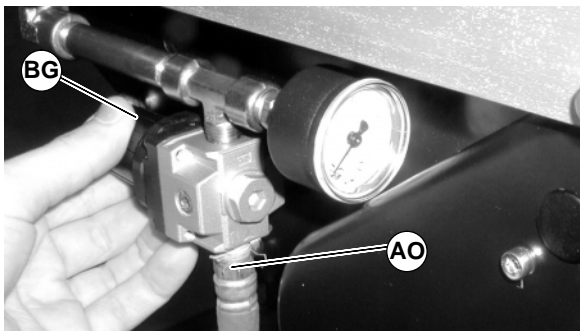

Figure 34
- Connect air supply (AO of Figure 34) to regulator (BG).
- Adjust regulator (BG of Figure 34) until gage reads the appropriate pressure. See following table for suggested pressures.